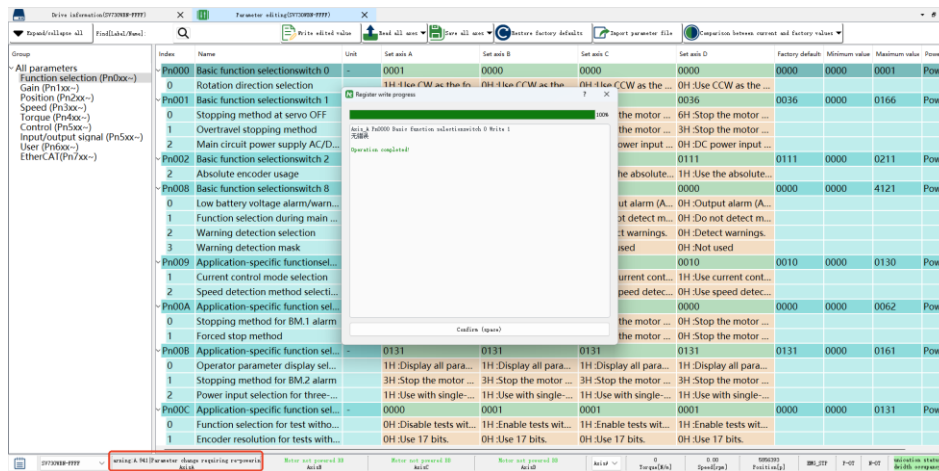

Figure 2-10
5) If you need to modify another parameter, such as Pn000, note that this parameter requires a power cycle or a software reset to take effect. Consequently, alarm 941 will appear in the lower-left corner as shown in Figure 2-10. Additionally, the Power Cycle